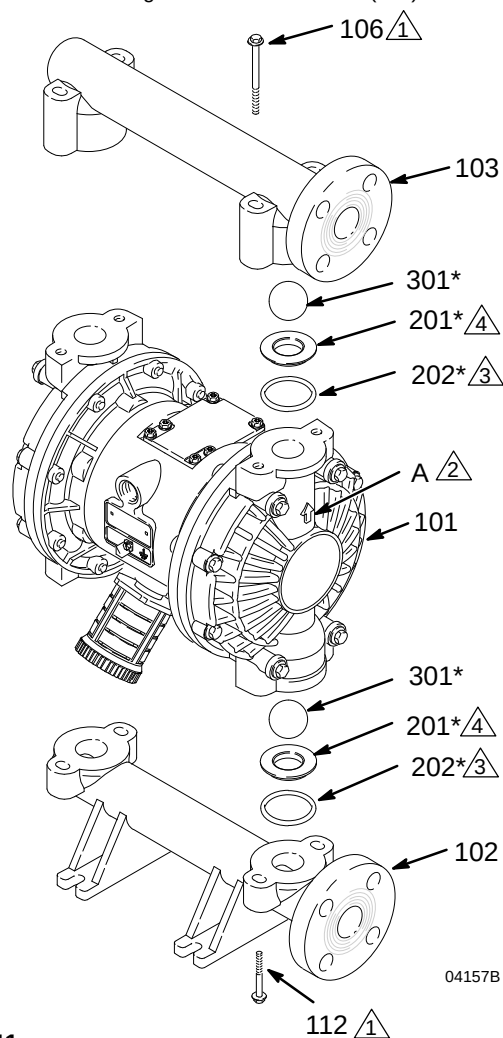

Fig. 11
3. Using a 10 mm socket wrench, remove the four bolts (106) holding the outlet manifold (103) to the fluid covers (101). See Fig. 11.
4. Remove the seats (201), balls (301), and o-rings (202) from the manifold.
- NOTE:** Some models use two o-rings (202), some models use four o-rings (202), and some models do not use o-rings.
5. Turn the pump over and remove the inlet manifold (102). Remove the seats (201), balls (301), and o-rings (202) from the fluid covers (101).
2. Reassemble in the reverse order, following all notes in Fig. 11. Assemble the ball checks **exactly** as shown. The arrows (A) on the fluid covers (101) **must** point toward the outlet manifold (103).
-  2 Arrow (A) must point toward outlet manifold (103).
-  4 Beveled seating surface must face ball (301).